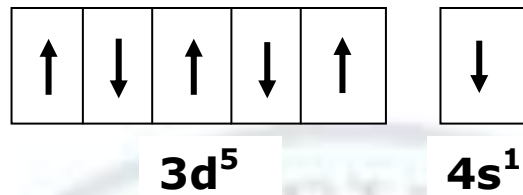

Figure 12
- It is a type of magnetism which arises because the adjacent atoms (magnetic domains) of a material align in opposite directions. Therefore, even if a magnetic field is applied to the material, there occurs a negligible magnetization. See figure 12, showing domain alignment in outermost orbital of chromium.